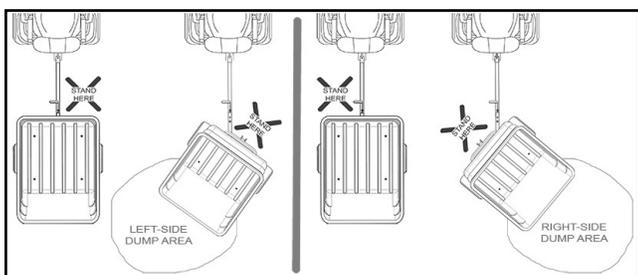

Figure 4.2 - Side Dump Function
3. Once the bed latch releases, use both hands to maintain control of the rotate and dump process. Refer to Figure 4.2